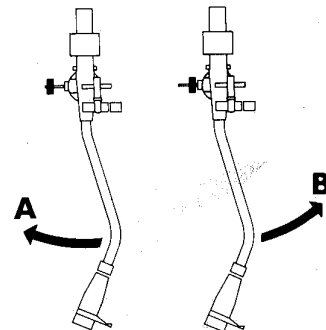

Fig. 1
- (1) In a case such as that shown in Fig. 1 when the lateral balance weight has been set at the extreme end of the lateral shaft, and yet the tonearm continues to travel in the direction shown by arrow A, correct by using both the large and the small lateral weights.
- (2) In a case such as that shown in Fig. 1 when the large lateral balance weight has been set at the innermost point on the lateral shaft, and yet the tonearm continues to travel in the direction shown by arrow B, change to the small balance weight and re-adjust.